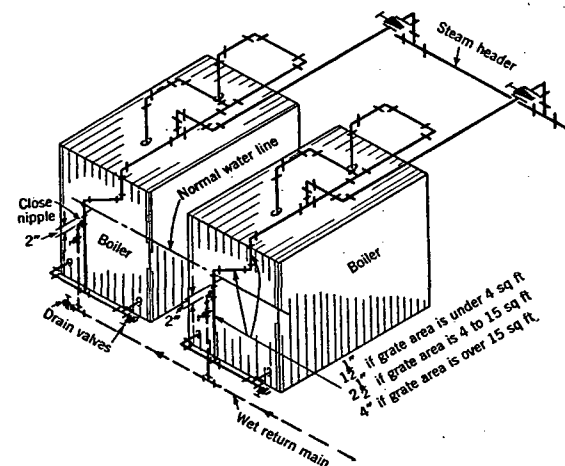

FIG. 5. THE HARTFORD RETURN CONNECTION
Fig. 5 shows this connection for a two-boiler installation. For a single boiler installation the connection is made as is indicated for one boiler. The essential features of construction of a Hartford Loop connection are: (1) a direct connection (made without valves) between the steam side of the boiler and the return side of the boiler, and (2) a close nipple connection about 2 in. below the normal boiler water line from the return main to the boiler steam and return balance connection.